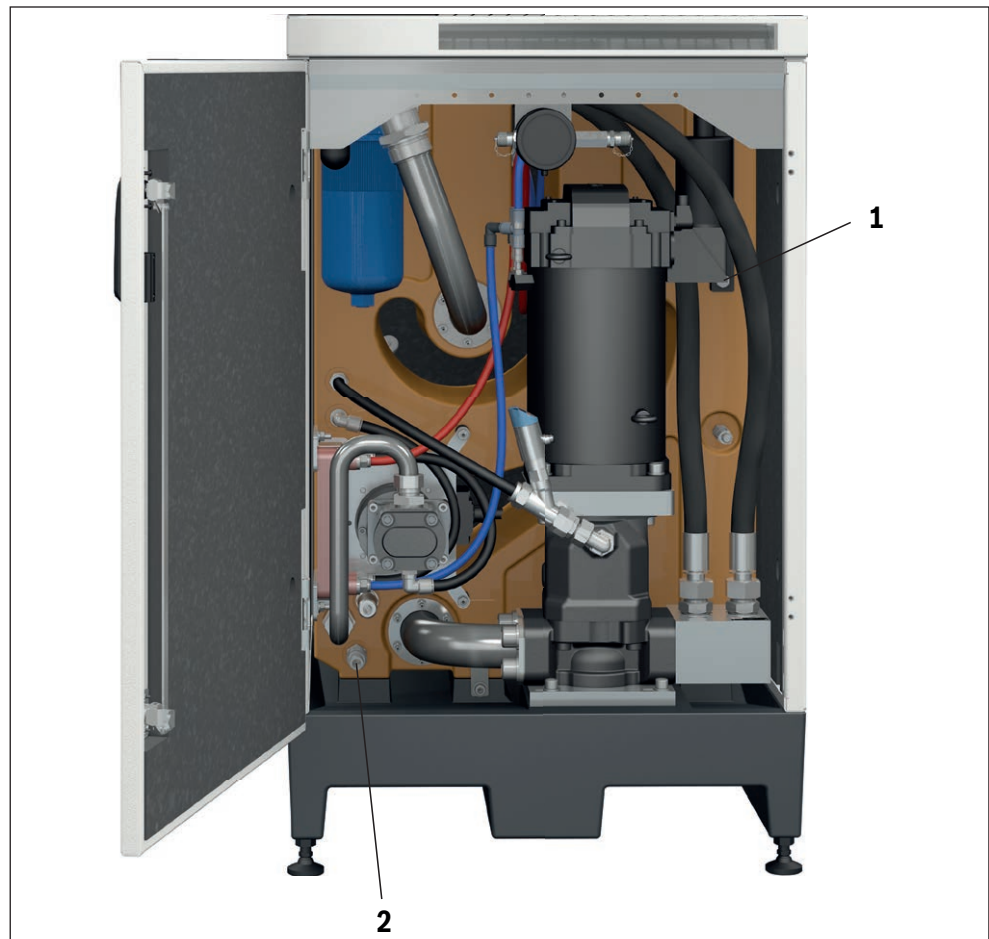

Fig. 21: Filling options
The optional tank volume of the CytroBox is 100 to 130 liters and can be checked via the oil level indicator, see Fig. 21, pos. 1.
- Open the front door at the bottom and connect a filling unit to the quick-release coupling type CEJN567-G1/2-020-105676200, see Fig. 21, pos. 2.